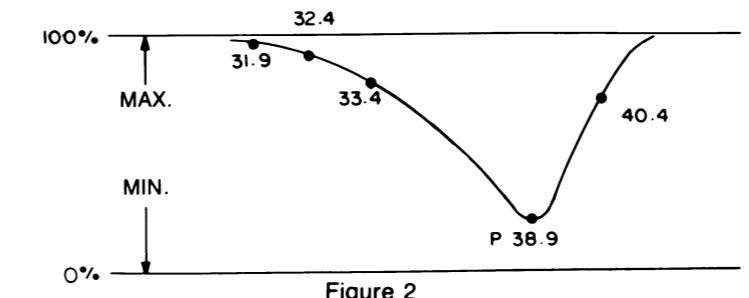

Figure 2
b) Adjust L103 (Detection Special Quality Adjustment Coil) in order to minimize the PICTURE CARRIER MARK as shown in figure 2.